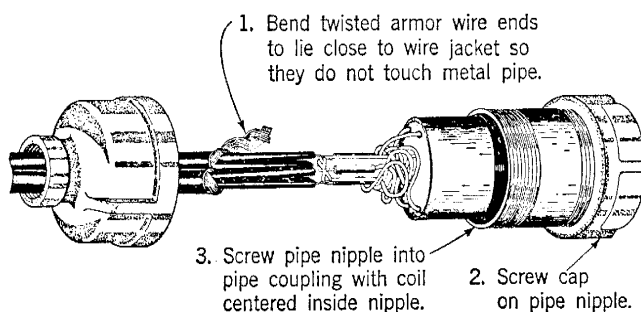

Fig. 12
**2.08** Assemble the coil case and other components as shown in Fig. 12. Make sure that the twisted armor wires do not touch the metal pipe nipple or coupling. This separation from ground is necessary for using the ground potential method in fault locating.